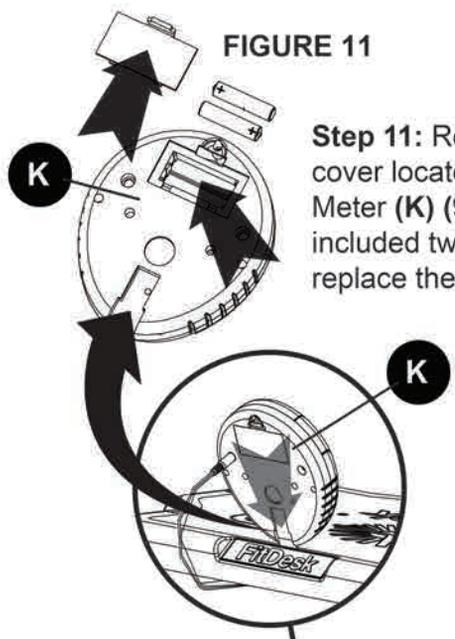

FIGURE 11
Step 11: Remove the battery cover located on the back of the Meter (K) (9106). Install the included two AAA batteries, then replace the cover. **Figure 11**